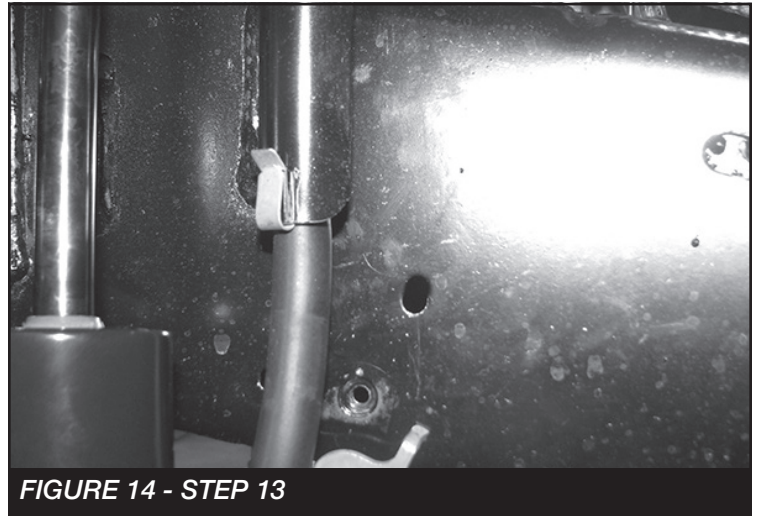
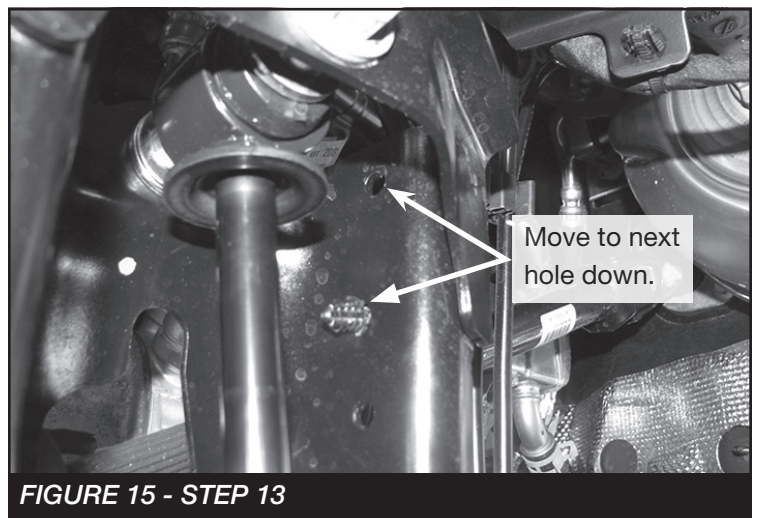

FIGURE 14 - STEP 13
FIGURE 15 - STEP 13
13. Reinstall the diff breather hose by moving the metal clip up the hose 2" **SEE FIGURE 14** and the christmas tree fastener into the next hole down. **SEE FIGURE 15.**